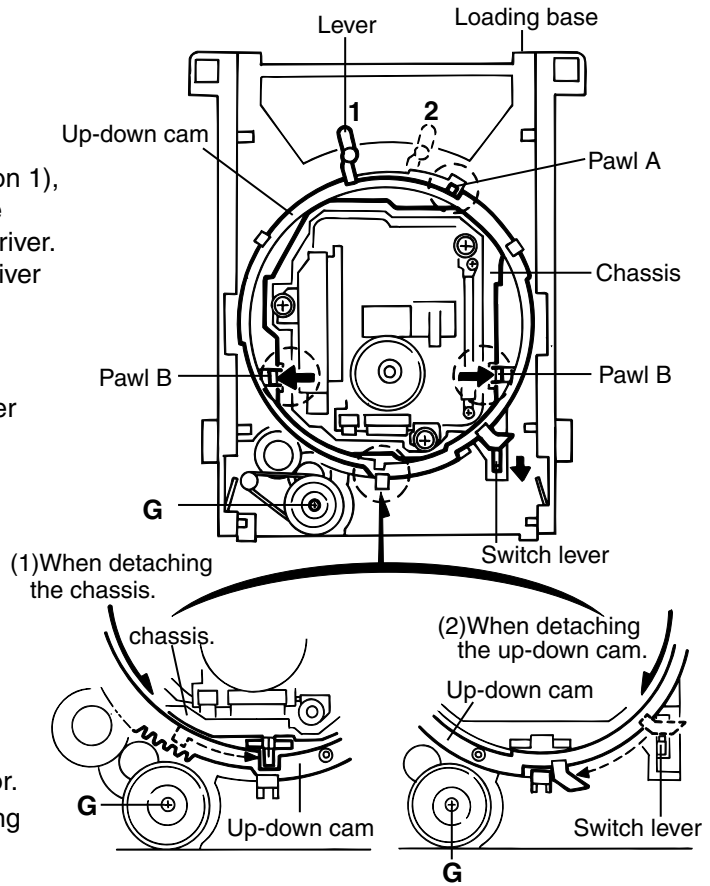

**Figure 9**
### ■ Removing the feed motor unit (refer to Figure 9)
### ■ Removing the optical pickup unit (refer to Figure 9)
3. Remove the two screws I attaching the power amplifier board (A) and the two screws J attaching the power amplifier board (B) on the underside of the power amplifier board.
4. Disconnect connector CN102 and CN103 on the power amplifier board (A) and CN105 and CN106 on the power amplifier board (B) from the power amplifier board respectively.
### ■ Removing the power amplifier board (A) (See Fig.9 and 10)
1. Remove the four screws K attaching the power amplifier board (A) to the heat sink.
2. Release the four joint hooks a bent and attached to the outside of the power amplifier board (A).
3. Move the power amplifier board (A) in the direction of the arrow to release joint b and remove the power amplifier board (A) from the bracket (A).
**■Removing the power amplifier board (B)**
**(See Fig.9 and 11)**
1. Remove the four screws L attaching the power amplifier board (B) to the heat sink.
2. Release the four joint hooks c bent and attached to the outside of the power amplifier board (B).
3. Move the power amplifier board (B) in the direction of the arrow to release joint d and remove the power amplifier board (B) from the bracket (B).